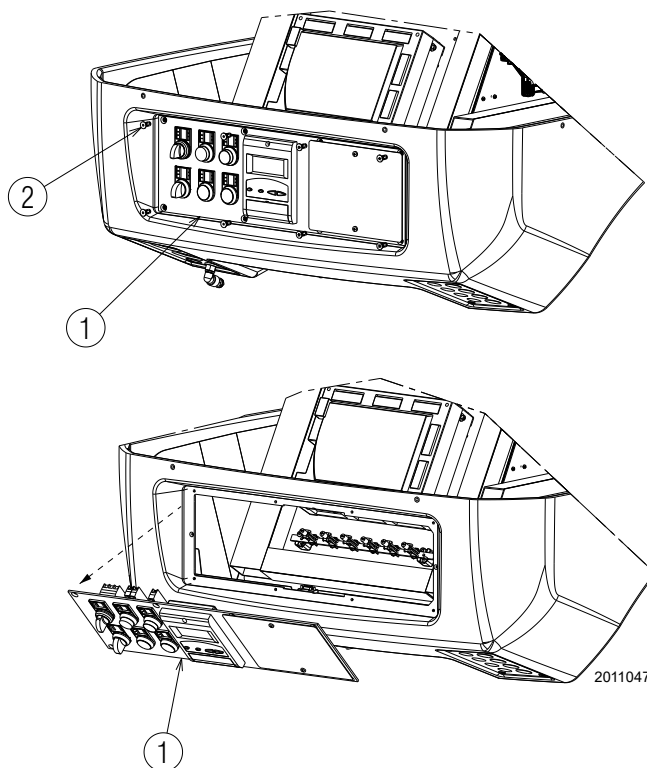

Fig. 56
- unscrew the screws 2) (Fig. 56) of the control panel 1);